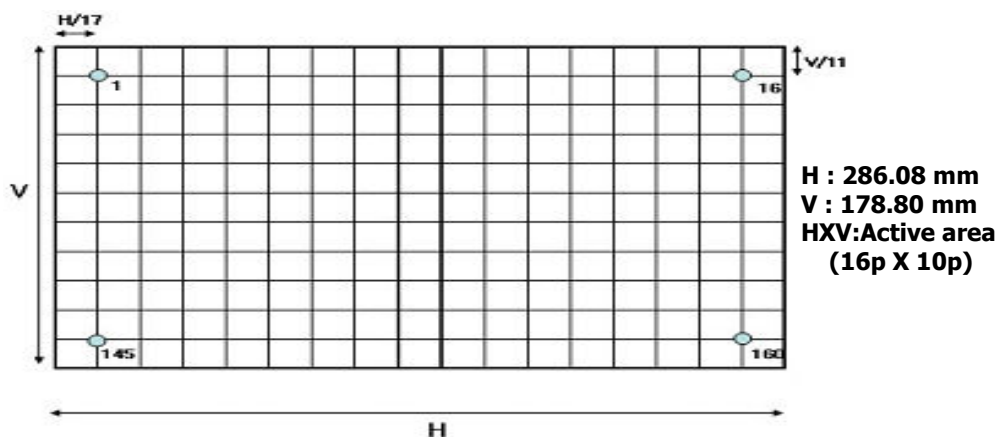

FIG. 3 Response Time
- Response time is the time required for the display to transition from white to black (rise time, T_{R}) and from black to white(Decay Time, T_{D}). For additional information see FIG 3.